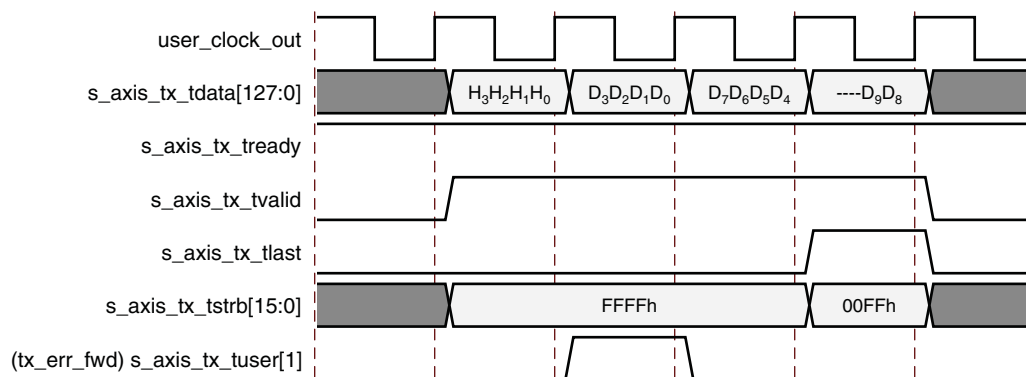

Figure 3-39: Packet Data Poisoning on the Transmit Interface
- Assert (tx_err_fwd) s_axis_tx_tuser[1] for at least one valid data transfer cycle any time during the packet transmission, as shown in Figure 3-39. This causes the core to set EP = 1 in the TLP header when it transmits the packet onto the PCI Express fabric. This mechanism can be used if the User Application does not know whether a packet could be poisoned at the start of packet transmission. Use of tx_err_fwd is not supported for packets when (tx_str) s_axis_tx_tuser[2] is asserted (streamed transmit packets). In streaming mode, users can optionally discontinue the packet if it becomes corrupted. See Discontinuing Transmission of Transaction by Source, page 57 for details on discontinuing packets.